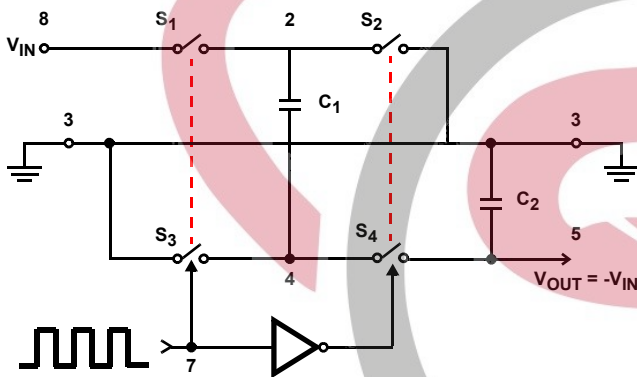
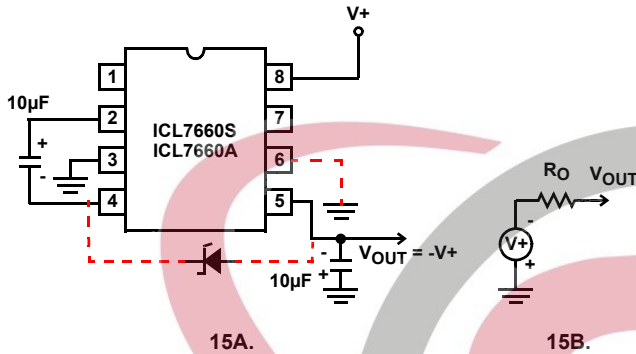
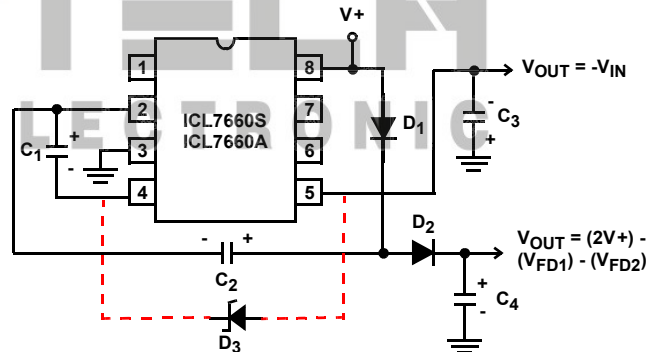

FIGURE 14. IDEALIZED NEGATIVE VOLTAGE CONVERTER
FIGURE 15. SIMPLE NEGATIVE CONVERTER AND ITS OUTPUT EQUIVALENT
FIGURE 19. COMBINED NEGATIVE VOLTAGE CONVERTER AND POSITIVE DOUBLER
The ICL7660S and ICL7660A contain all the necessary circuitry to complete a negative voltage converter, with the exception of two external capacitors, which may be inexpensive 10 μ F polarized electrolytic types. The mode of operation of the device may best be understood by considering Figure 14, which shows an idealized negative voltage converter. Capacitor C₁ is charged to a voltage, V₊, for the half cycle, when switches S₁ and S₃ are closed. (Note: Switches S₂ and S₄ are open during this half cycle). During the second half cycle of operation, switches S₂ and S₄ are closed, with S₁ and S₃ open, thereby shifting capacitor C₁ to C₂ such that the voltage on C₂ is exactly V₊, assuming ideal switches and no load on C₂. The ICL7660S and ICL7660A approach this ideal situation more closely than existing non-mechanical circuits.
In the ICL7660S and ICL7660A, the four switches of Figure 14 are MOS power switches; S₁ is a P-Channel device; and S₂, S₃ and S₄ are N-Channel devices. The main difficulty with this approach is that in integrating the switches, the substrates of S₃ and S₄ must always remain reverse biased with respect to their sources, but not so much as to degrade their "ON" resistances. In addition, at circuit start-up, and under output short circuit conditions (V_{OUT} = V₊), the output voltage must be sensed and the substrate bias adjusted accordingly. Failure to accomplish this would result in high power losses and probable device latch-up.
where V₁ and V₂ are the voltages on C₁ during the pump and transfer cycles. If the impedances of C₁ and C₂ are relatively high at the pump frequency (see Figure 14) compared to the value of R_L, there will be a substantial difference in the voltages, V₁ and V₂. Therefore it is not only desirable to make C₂ as large as possible to eliminate output voltage ripple, but also to employ a correspondingly large value for C₁ in order to achieve maximum efficiency of operation.
The majority of applications will undoubtedly utilize the ICL7660S and ICL7660A for generation of negative supply voltages. Figure 15 shows typical connections to provide a negative supply where a positive supply of +1.5V to +12V is available. Keep in mind that pin 6 (LV) is tied to the supply negative (GND) for supply voltage below 3.5V.
The output characteristics of the circuit in Figure 15 can be approximated by an ideal voltage source in series with a resistance as shown in Figure 15B. The voltage source has a value of $-(V+)$. The output impedance (R_O) is a function of the ON resistance of the internal MOS switches (shown in Figure 14), the switching frequency, the value of C_1 and C_2 , and the ESR (equivalent series resistance) of C_1 and C_2 . A good first order approximation for R_O is shown in Equation 2:
Figure 19 combines the functions shown in Figure 15 and Figure 18 to provide negative voltage conversion and positive voltage doubling simultaneously. This approach would be suitable, for example, for generating +9V and -5V from an existing +5V supply. In this instance, capacitors C_1 and C_3 perform the pump and reservoir functions, respectively, for negative voltage generation, while capacitors C_2 and C_4 are pump and reservoir, respectively, for the doubled positive voltage. There is a penalty in this configuration which combines both functions, however, in that the source impedances of the generated supplies will be somewhat higher, due to the finite impedance of the common charge pump driver at pin 2 of the device.
resistor to the LV pin ensures start-up. Because the switches share the load in parallel, the output impedance is much lower than in the standard circuits, and higher currents can be drawn from the device. By using this circuit, and then the circuit of Figure 15, +15V can be converted, via +7.5 and -7.5, to a nominal -15V, although with rather high series output resistance (~250Ω).